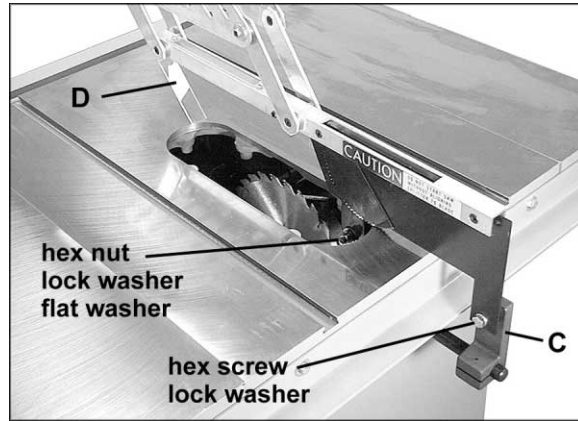

Figure 9
3. The upright member of the rear splitter support (C, Figure 9) must be oriented toward the right of the shaft, as observed from the rear of the saw.
4. Mount the splitter assembly to the two adjusting screws. See Figure 9. Place the two flanges of the splitter assembly onto the screws as shown. Snug the screws. (NOTE: Make sure the front shield (D, Figure 9) faces in toward the blade)